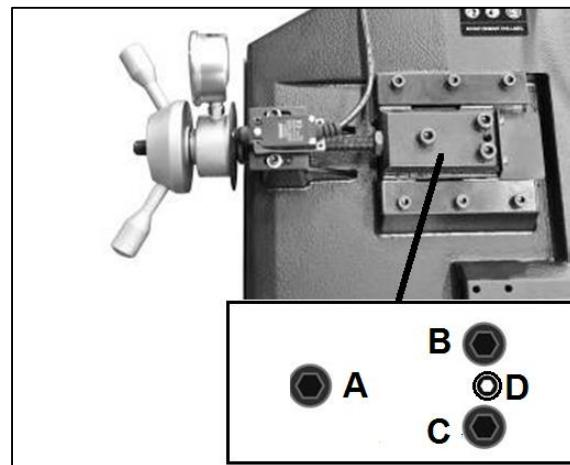

Figure 8-5: Blade Tracking Adjustment
- Loosen the hex socket screws ( A, B, C, Fig 8-5)